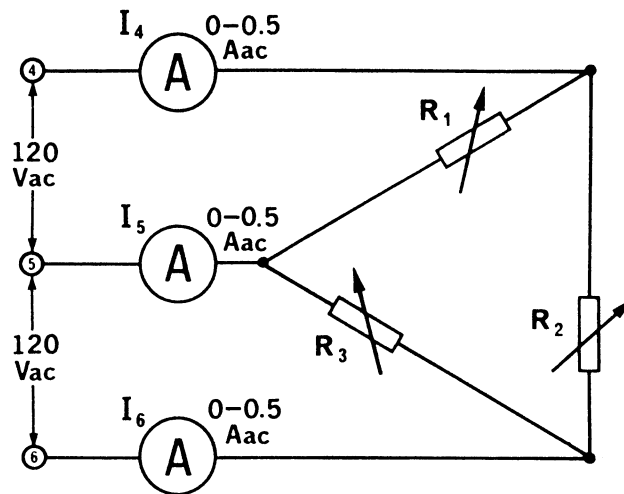

Figure 45-4.
- h. Disconnect the three current meters and insert them in series with power supply terminals 4, 5 and 6. Replace the removed current meters with connection leads as shown in Figure 45-4.